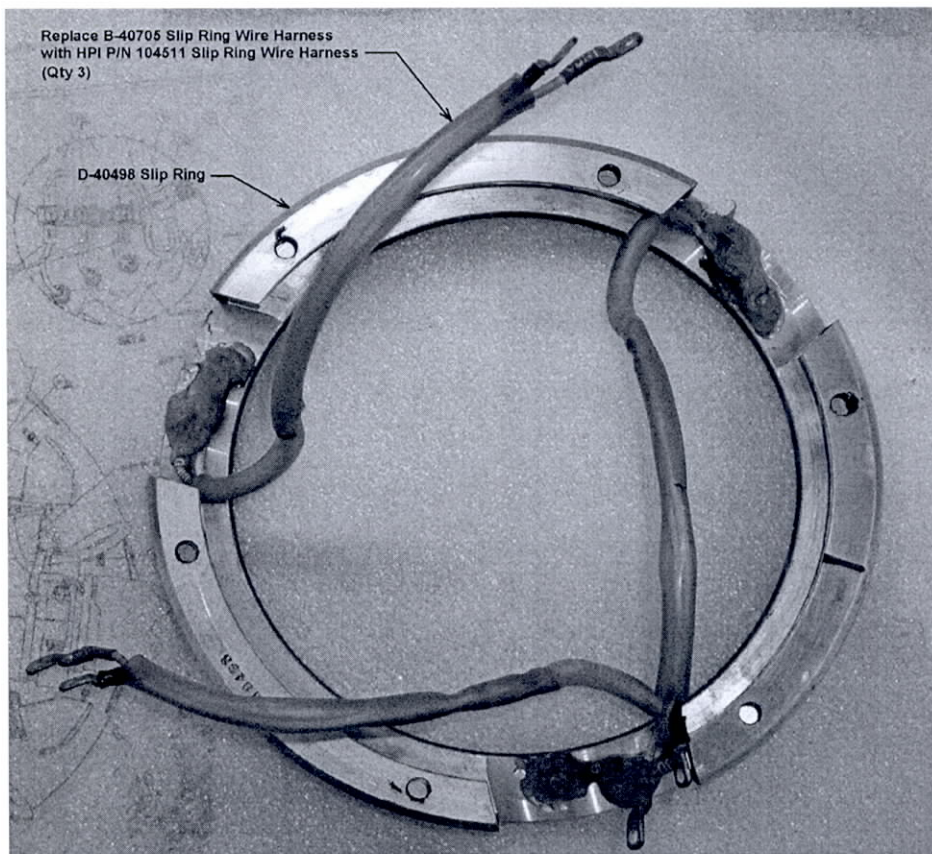

FIGURE 1
2. Remove the D-40498 slip ring from the starter ring gear in accordance with Cessna aircraft maintenance manual(s). Remove the B-40705 slip ring wire harness leads and replace with Hartzell P/N 104511 slip ring wire harness per Cessna maintenance manuals and Figure 1.